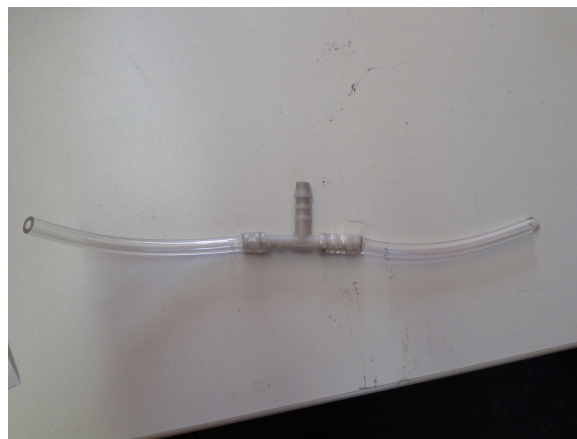

Figure 4.1: Output hoses connected to T-piece
- 2 pieces of hose of approximately 10cm length, for the output connectors. Connect those to the T-piece, see figure 4.1